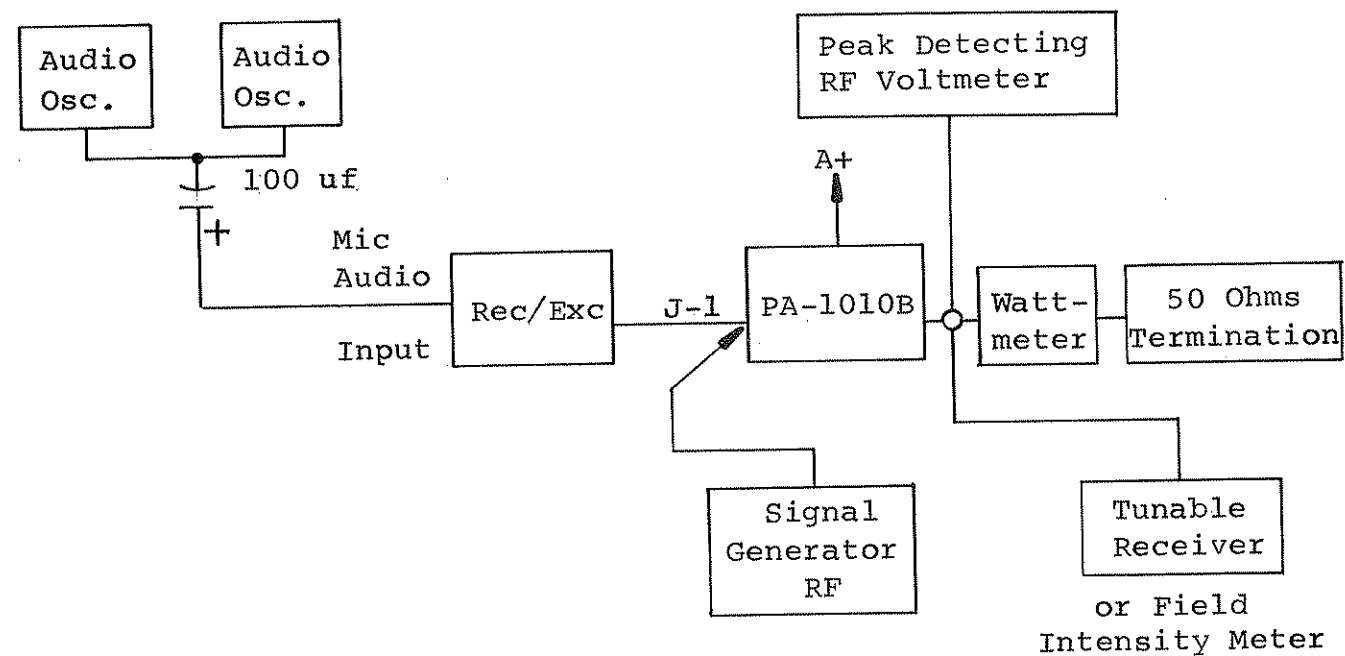

Figure VI-3
- (a) Connect equipment as shown in Figure VI-3.
- (a) Refer to Figure VI-3 for test set-up.